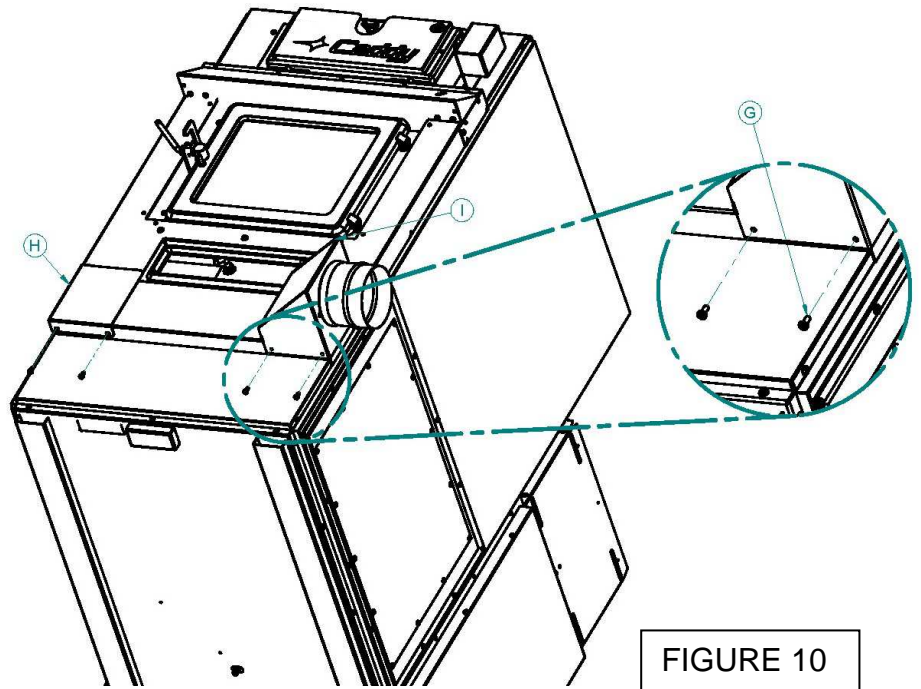
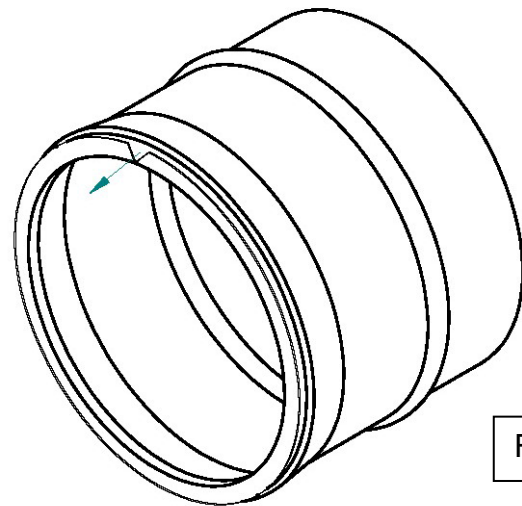

FIGURE 10
FIGURE 11
Step 10: Secure the lid of the fresh air intake adapter (H) and the right fresh air intake adapter box (I) to the lower part of the fresh air intake adapter using two supplied screws (G) each, as shown on figure 10.
Step 11: Cut a « V » shape notch using sheet metal scissors, as shown on figure 10. Use pliers to bend a part of the lip of the adapter towards the exterior, as shown by the arrow on figure 11.